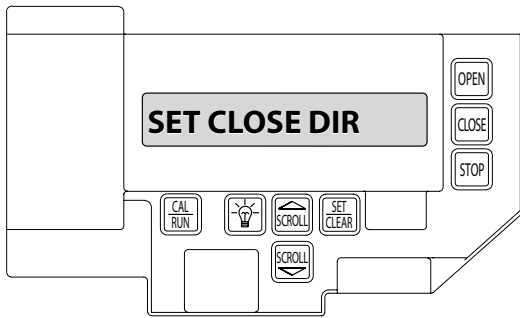

Fig. 1
- 2) Press SET/CLEAR key to begin the calibration procedure and advance to the next screen. Fig. 1